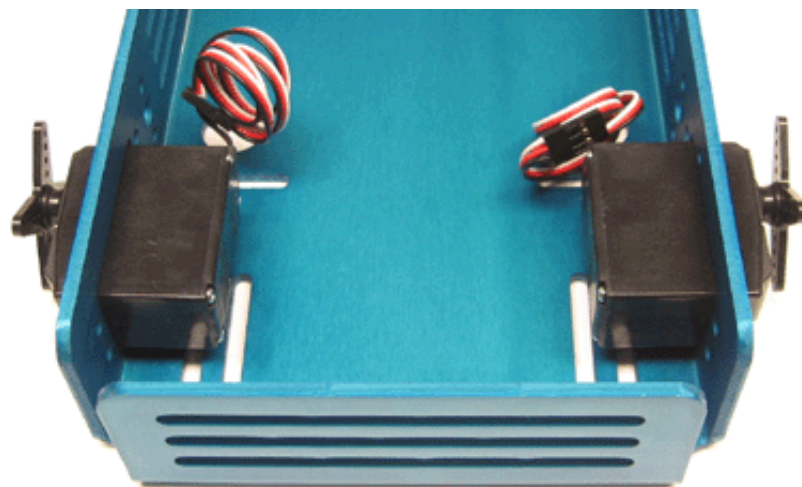

Figure 3. Servo motors correctly positioned in chassis.
1. Insert the servos into the chassis, as shown in Figure 3. *NOTE: Be sure to orient the servo motors exactly as shown, with the wires protruding near the two round holes in the chassis.*